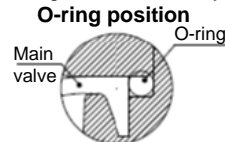

Fig.8
- Mount the O-ring into the groove in the body, see Fig.8.